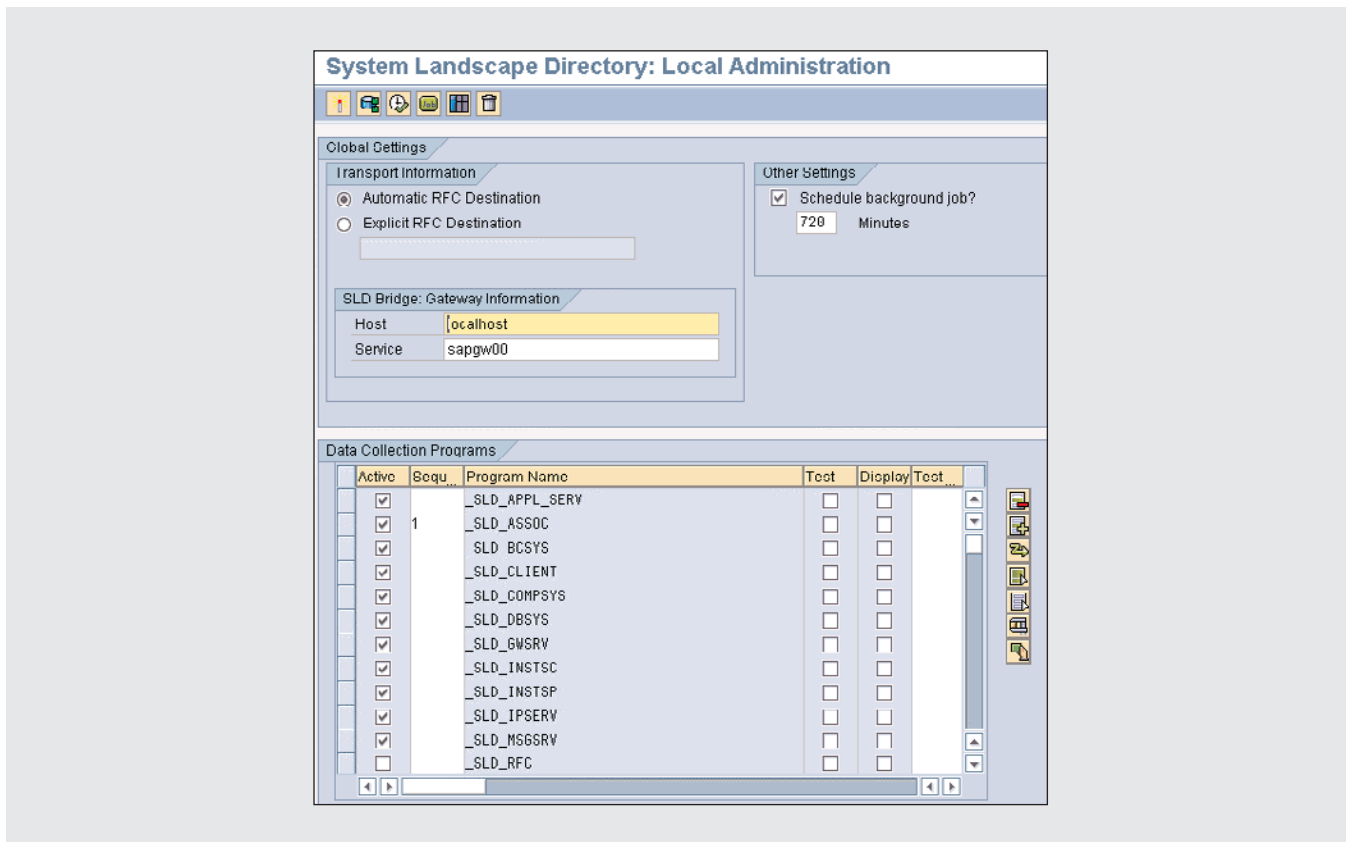
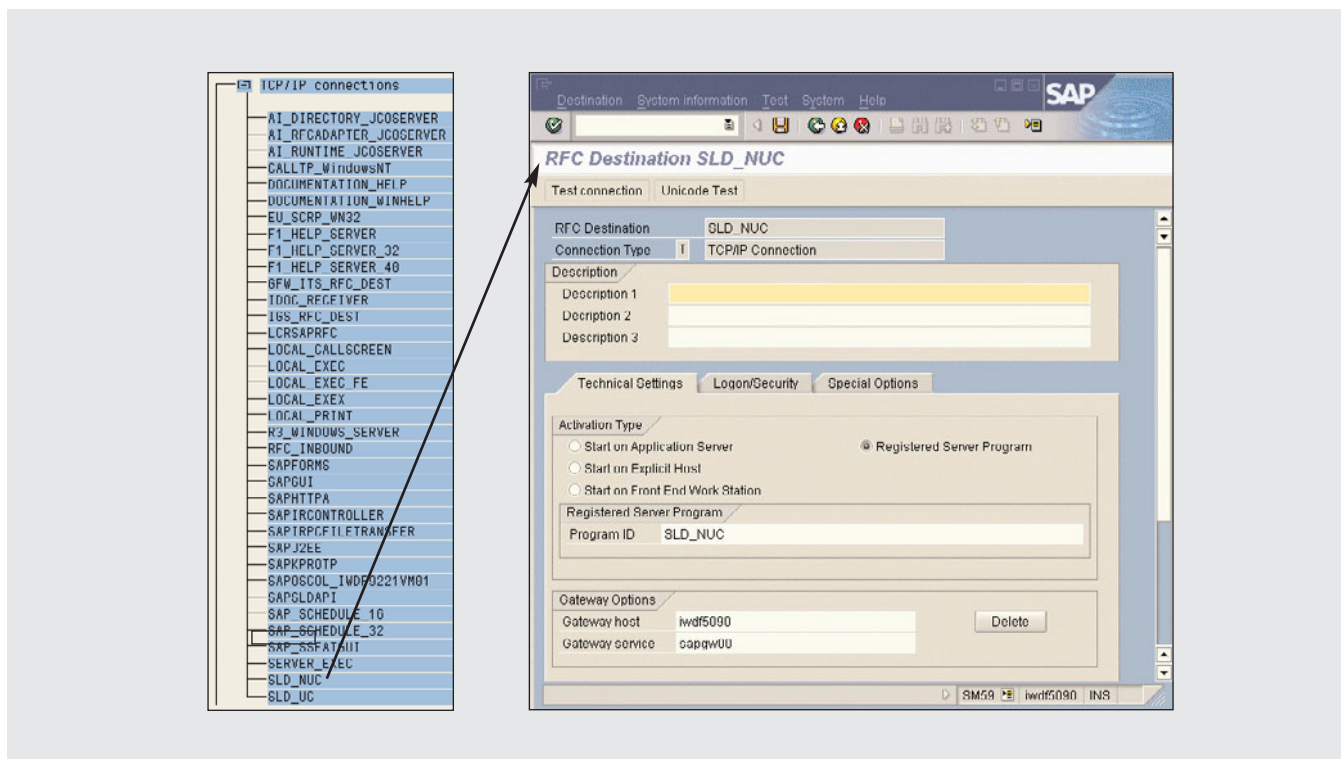

Figure 21 ABAP-based SLD data supplier configuration in transaction RZ70
Figure 22 RFC destination details in transaction SM59
An ABAP-based data supplier is configured in transaction RZ70 (SLD Administration). **Figure 21** shows the RZ70 screen in an SAP NetWeaver 2004s ABAP system. Information needed for the configuration is divided into four sections:
Figure 22 on page 34 shows the details of the automatically generated RFC destination SLD_NUC in transaction SM59 (Maintain RFC Destinations). As you can see, the RFC refers to a registered program SLD_NUC (SLD_UC in the case of the SLD_UC RFC destination). The purpose of these registered programs is discussed in the upcoming section on accessing SLD data from an ABAP-based system.
If you select Explicit RFC Destination, you first need to define an RFC connection and then enter its name in the provided space in Figure 21. When
defining an RFC connection for a Unicode system, make sure you select the Unicode option on the Special Options tab in Figure 22. The RFC connection is based on the nature of the data supplier system, not the SLD server. If it is not a Unicode system, leave this option out.
- The **SLD Bridge: Gateway Information** section is for specifying the RFC gateway service of the SLD data supplier bridge. For an ABAP-based data supplier, the RFC gateway service is mandatory. Although it appears that the same gateway service information is provided in transaction RZ70 (Figure 21) and transaction SM59 (Figure 22), the settings are not redundant. Once I had difficulty sending data from an ABAP-based system to an SLD server. The cause was missing gateway service information in transaction RZ70. After entering the correct gateway service information, the SLD server received system updates immediately.
You manage the data collection programs you want to use with the icons on the right side of this section in Figure 21. From top to bottom, they are:
After all information has been entered in Figure 21, you need to activate the current configuration settings and start the data collection. Let's take a look at the icons listed at the top from left to right (note that two of the icons are available only in the 2004s version of SLD, and therefore do not appear in the 6.40 version of SLD):